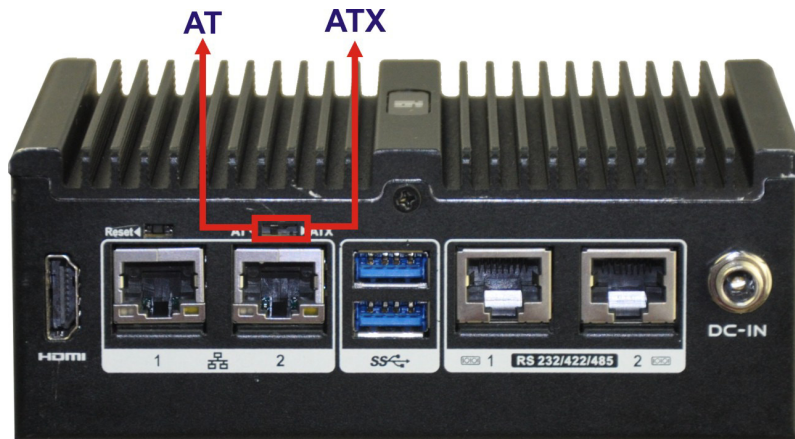

Figure 3-12: AT/ATX Switch Location
AT or ATX power mode can be used on the uIBX-250-BW. The selection is made through an AT/ATX switch located on the rear panel (Figure 3-12). To select AT mode or ATX mode, follow the steps below.
Step 1: Locate the AT/ATX switch on the rear panel (**Figure 3-12**).